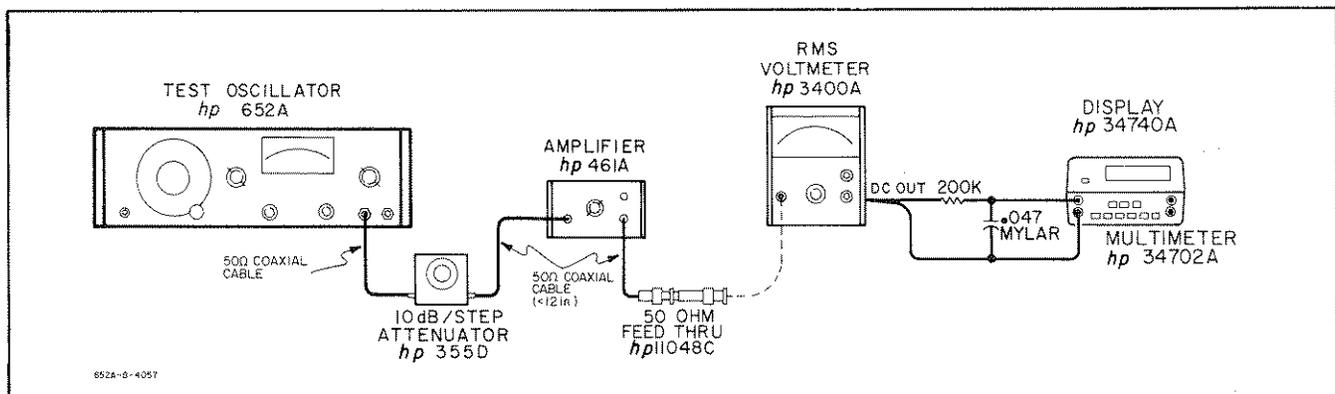

Figure 5-4. Attenuator Test.
a. Connect external attenuator, amplifier, ac voltmeter and digital voltmeter to 652A as shown in Figure 5-4. Use an attenuator with known accuracy.